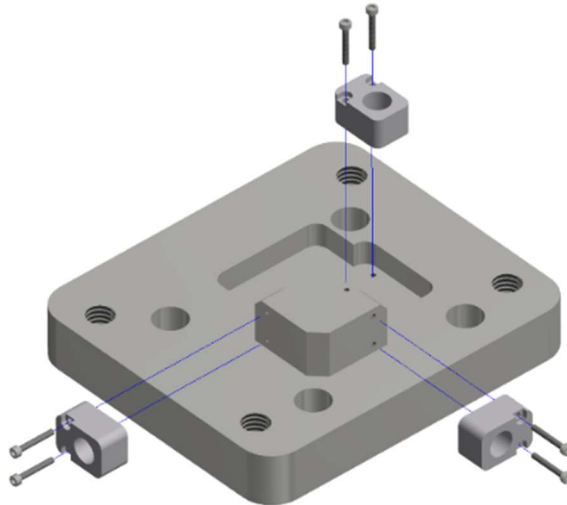

Figure 8-47. Mount the X, Y, and Z angular rate sensors to the Upper Torso to Pelvis Adaptor Plate (474-4004)
- 8.3.17 Mount the X, Y, and Z angular rate sensors to the Upper Torso to Pelvis Adaptor Plate (474-4004) using two M1.4 X 0.3 X 10 SHCS per ARS (Figure 8-47).